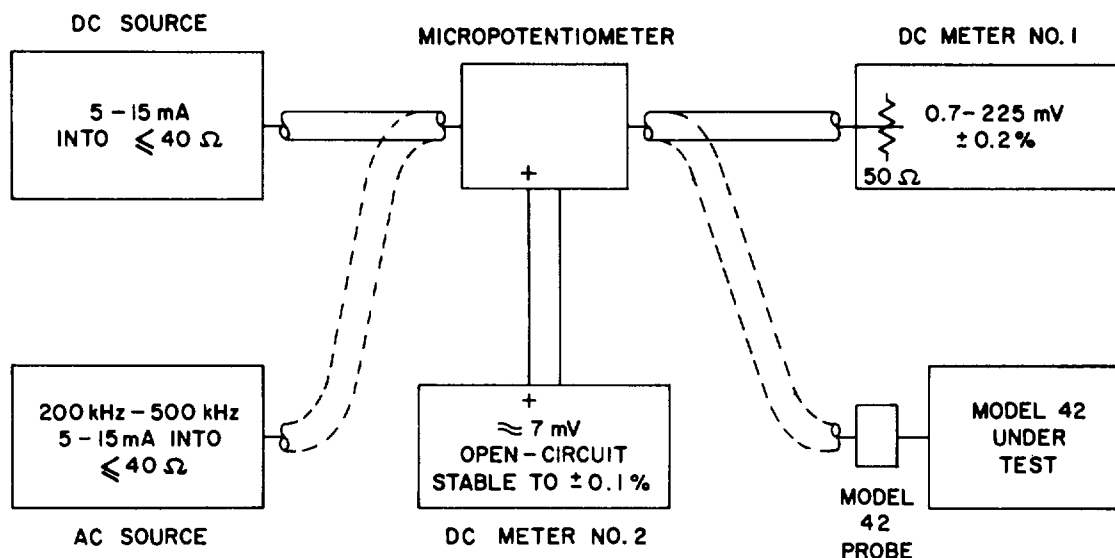
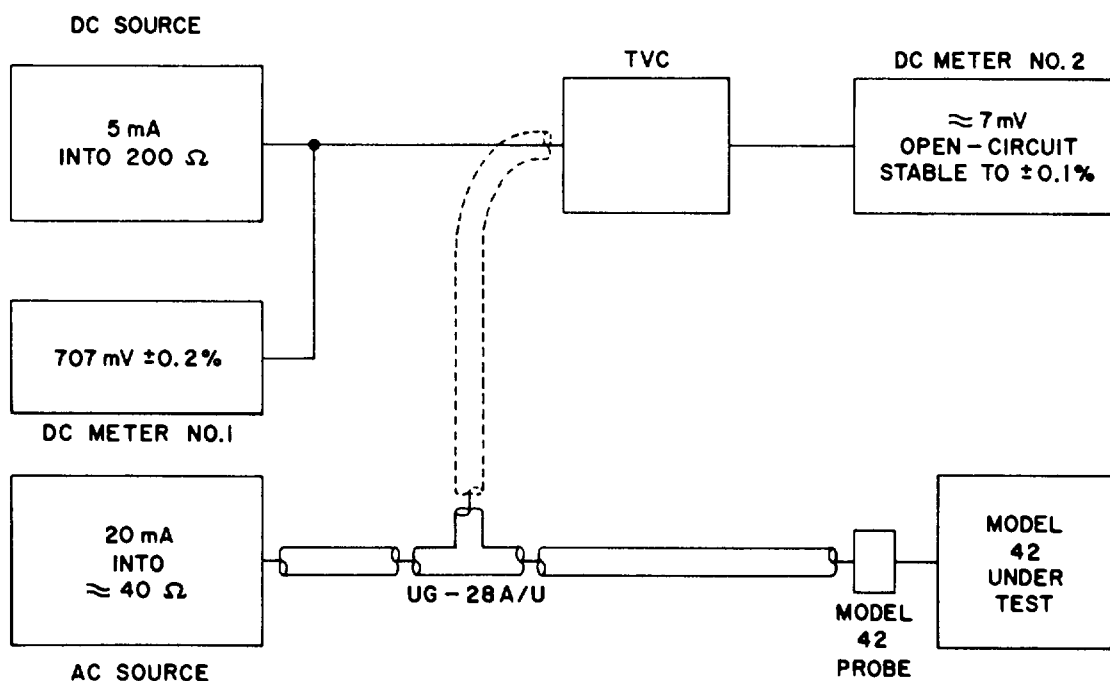

Figure 9. Connections
Figure 10. Connections
Because of the outstanding low-frequency response of the instrument (200 kHz as opposed to the usual 10 MHz of competitive instruments) it is convenient to check the performance by using voltage sources in the frequency range of 200 kHz to 1 MHz. In this range, there are commercial sources and reference standards available with the required accuracy. Figure 9 shows the suggested equipment and connections to check all ranges of the instrument, except the +10 dBm range; Figure 10 shows the suggested equipment and connections to check the +10 dBm range.
The Boonton Model 25A Power Meter Calibrator can be substituted for the equipment shown in figures 9 and 10. This calibrator provides 1 MHz power levels from -69 to +20 dBm in 1 dB steps with 0.05 dB uncertainty. If the Model 25A Calibrator is used, disregard all references in paragraphs 5.4 and 5.5 to equivalent voltage levels; merely refer to specified power levels which then can be switch-selected on the Model 25A.
Each range is checked by connecting the Model 440 micropotentiometer (using the appropriate thermocouple and radial resistor) to the dc power source and dc meter No. 1 (Figure 9) and adjusting the dc power source until the dc meter No. 1 reads the voltage equivalent to the full-scale power for that range (refer to Table 2). Record the dc meter No. 1 reading. Now connect the micropotentiometer to the ac power source and the Model 42BD under test. Adjust the ac power source until the dc meter No. 2 indicates the same value as recorded for the dc meter No. 1. The RMS output voltage of the micropotentiometer is now equivalent to the recorded dc voltage. The Model 42BD should now read full scale within the specified tolerance ( $\pm 5\%$  for the PWR mode;  $\pm 0.2$  dBm for the dBm mode). Perform the steps listed in Table 2 to check performance.
- a. Connect the instrument to test set-up as shown in Figure 10. Depress the 10 mW button of the FULL SCALE range selection.
- c. Connect the ac source to the ac source tee (UG-28A/U) as in Figure 10.
- a. Connect the instrument in a test set-up as shown in Figure 10. Depress the 10 mW button of the FULL SCALE range selector and inject an input of 707.1 mv.
- c. Remove the instrument from the Figure 10 test set-up and connect it to a test set-up as shown in Figure 9. Depress the 100 nW button of the FULL SCALE range selector and set the OFF/PWR/dBm switch to PWR.
- a. Connect the instrument to a test set-up as shown in Figure 9, depress the 1 mW button of the FULL SCALE range selector and inject an input of 223.6 mv (refer to Table 2, step 6).
- a. Connect the instrument in a test set-up as shown in Figure 9. Depress the 1 mW button of the FULL SCALE range selector, and inject an input of 223.6 mV (refer to Table 2, step 6).